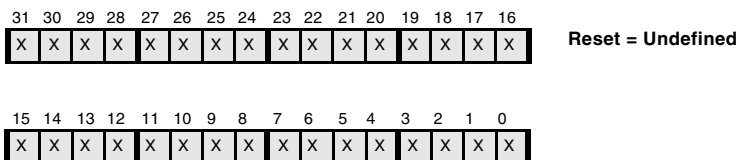

Figure 6-7. Instruction Test Data 1 Register
- Figure 6-7, “Instruction Test Data 1 Register,” on page 6-23